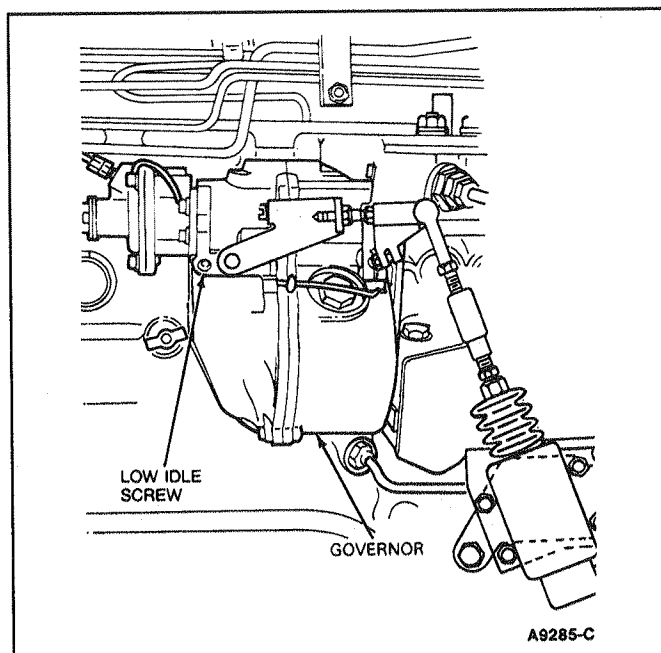

Figure 12 Adjusting Screw
6. Check idle speed using Rotunda Photoelectric Tachometer 099-00001 or equivalent. Low idle speed is specified on the Vehicle Emission Control Information (VECI) decal. Turn adjusting screw (Figure 12) counterclockwise to increase speed, clockwise to decrease speed.